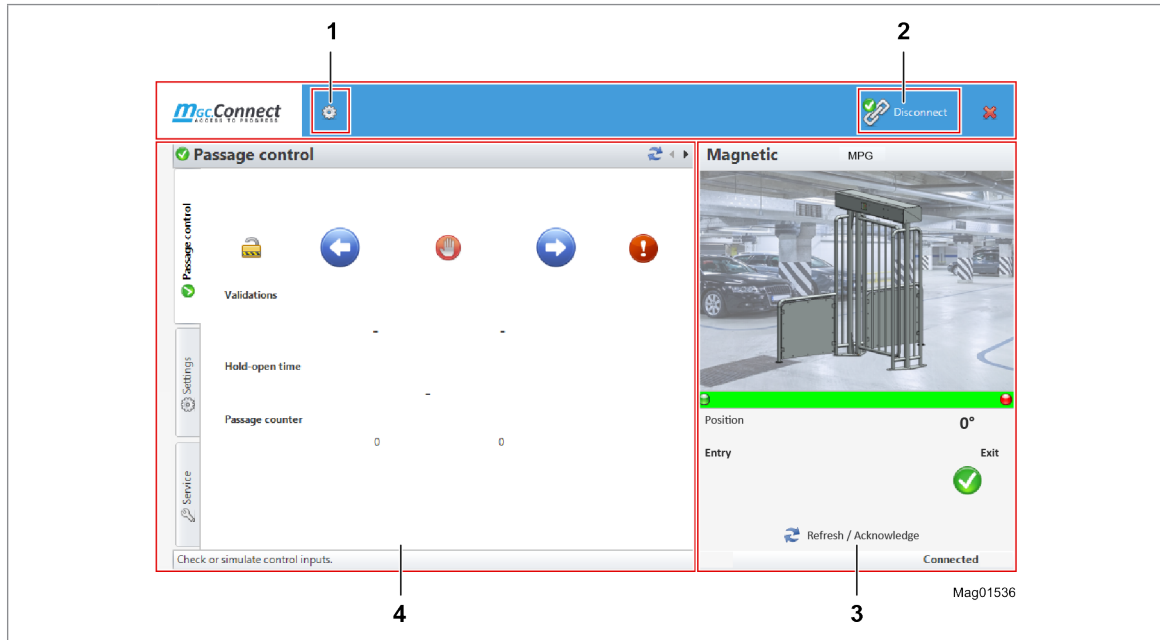

Fig. 4: Exemplary view "MGC.Connect"
1. Open the "Configuration" window. To do so, click the "⚙" button in the header of the MGC.Connect programme. ↗ Page 21, Fig. 4, pos. 1.
You can change the menu language via the "Language" option in the "Configuration" window. Open the "Configuration" window with the "⚙️" button in the header of the MGC.Connect programme. ↗ Page 21, Fig. 4, pos. 1.